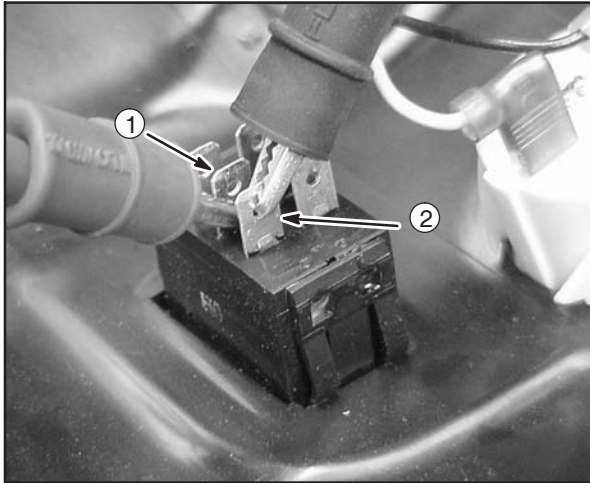

Fig. 28
2. Attach either test lead from meter to center terminal (1) on switch (brown wire). Leave lead attached through step 10.
3. Attach other test lead to bottom terminal (2) on switch (black wire), Fig. 28.